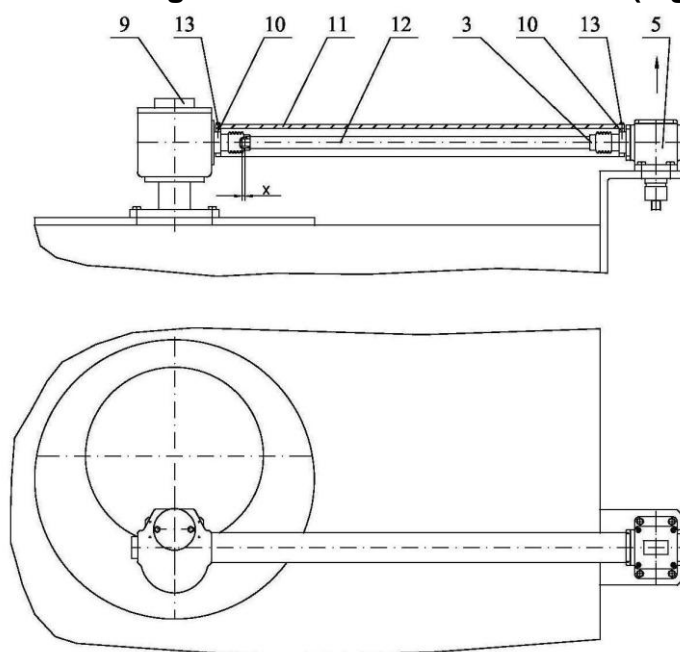

Fig.38 – Horizontal shafts with protective pipes
11.3. Installation of the bevel gear and the horizontal shafts (Fig. 38).